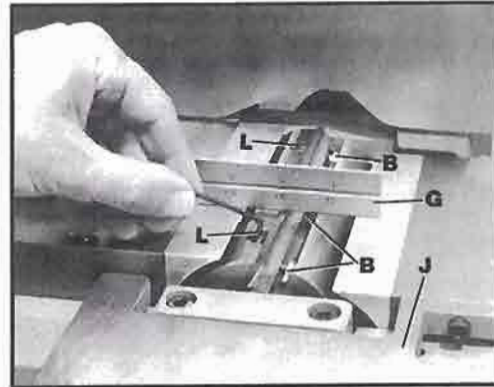

Fig. 32
4. Lower the infeed table (J) Fig. 32, and place a straight edge (G) on the outfeed table extending over the cutterhead as shown.
6. To raise the knife, use wrench as shown in Fig. 32, and turn screw (L) clockwise until the knife just touches the straight edge (G). Repeat this procedure on other side of the cutterhead.
7. Tighten the three knife locking screws (B) Fig. 32. Adjust the remaining two knives in the same manner. **CAUTION:** Make certain the all knives are securely fastened before turning on the machine.